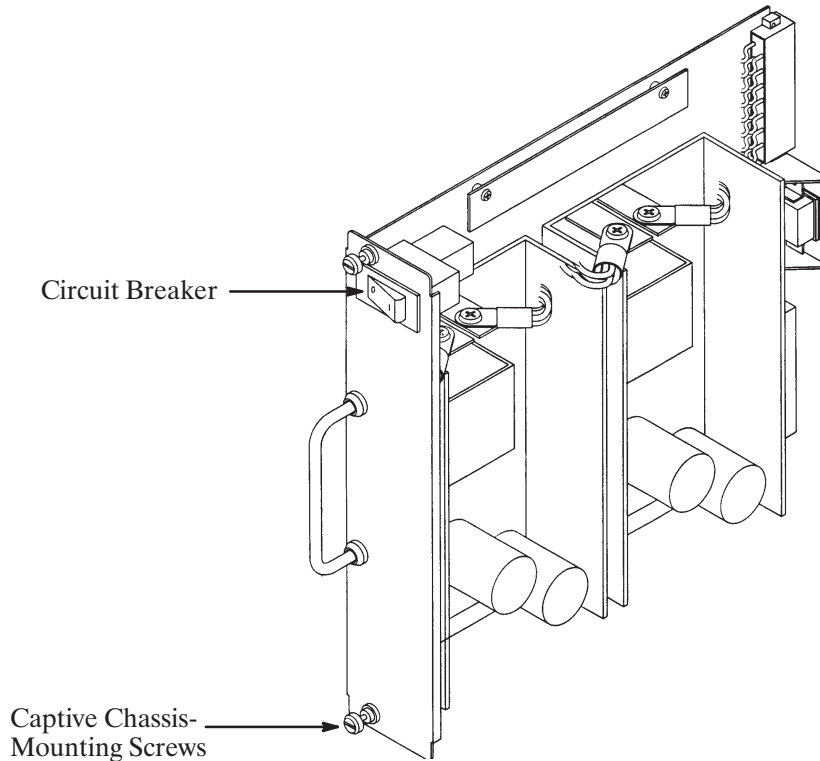

Figure 9-20 Octel Overture 300 Power Supply Assembly
- For the Octel Overture 300, the power supply unit and the floppy-disk drive can be replaced separately. Refer to the Octel Overture 300 Floppy-Disk-Drive Replacement section to remove an Octel Overture 300 floppy-disk drive. Figure 9-20 shows the power supply assembly for the Octel Overture 300.